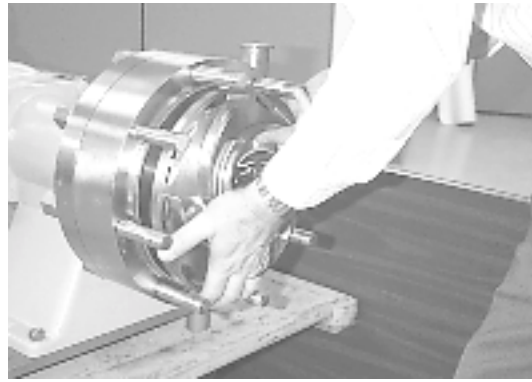

Figure 20
7. Pull impeller and baffle plate off drive shaft. (Figure 20)